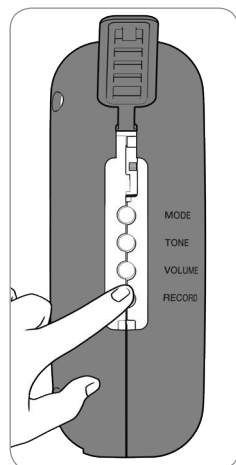

Fig. 8
3. Press and hold the RECORD button on left side of fall monitor (Fig. 8).